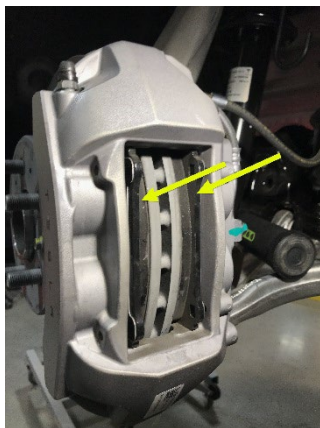

Figure 13 (Model 3 shown, other models similar)
17. Install the brake pads into the front LH caliper (Figure 13).